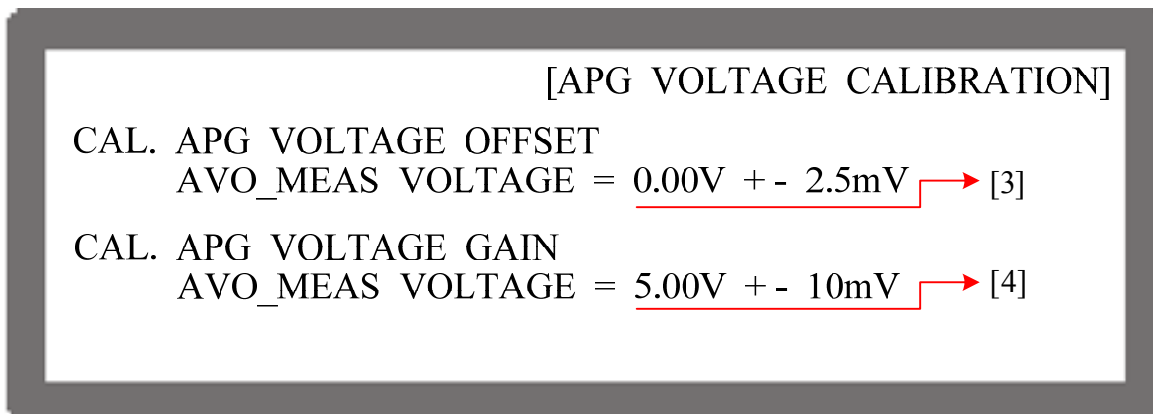

Figure 3-121
- (6) Press “” again the cursor stops at position [3] as Figure 3-121 shows. Open the device cover to find VR402 (adjustable resistor) on the PCB of 62xxxP-xx-xx C ver.x. Make the DVM2 reading of Pin5 to be 0.00V±2.5mV by adjusting the resistance of VR402. Once the reading is adjusted correctly, press “” to confirm it.
- (7) Press “” again the cursor stops at position [4] as Figure 3-121 shows. Open the device cover to find VR401 (adjustable resistor) on the PCB of 62xxxP-xx-xx C ver.x. Make the DVM2 reading of Pin5 to be 5.00V±10mV by adjusting the resistance of VR401. Once the reading is adjusted correctly, press “” to confirm it.